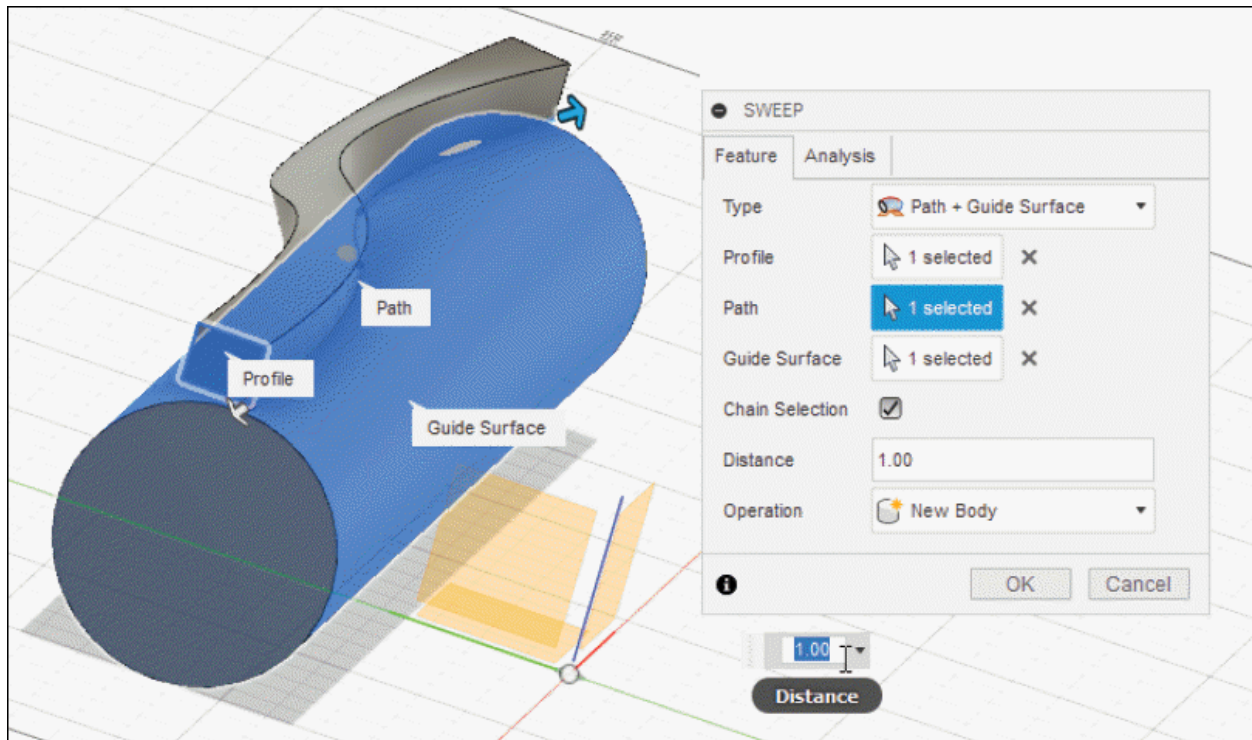

Figure-67. Sweep feature created using guide surface
- Select the surface by which you want to control the shape of sweep feature; refer to Figure-67. Preview of feature